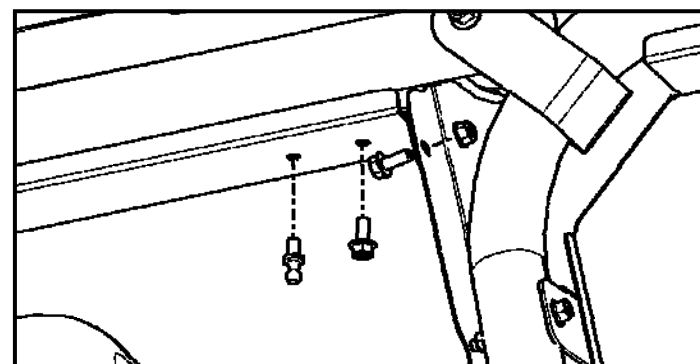

Figure 7.4: Side headers B-pillar bracket (left shown)
- (1) 10mm Ball stud (5/16-18 thread)
- (3) 5/16-18 Flanged nut
Attach the side header to the B-pillar with a rear header bracket, with a Ball stud in the rear hole in the header and two (2) 5/16 x 3/4" bolts, and secure with nuts. Leave loose **(Figure 7.4).**